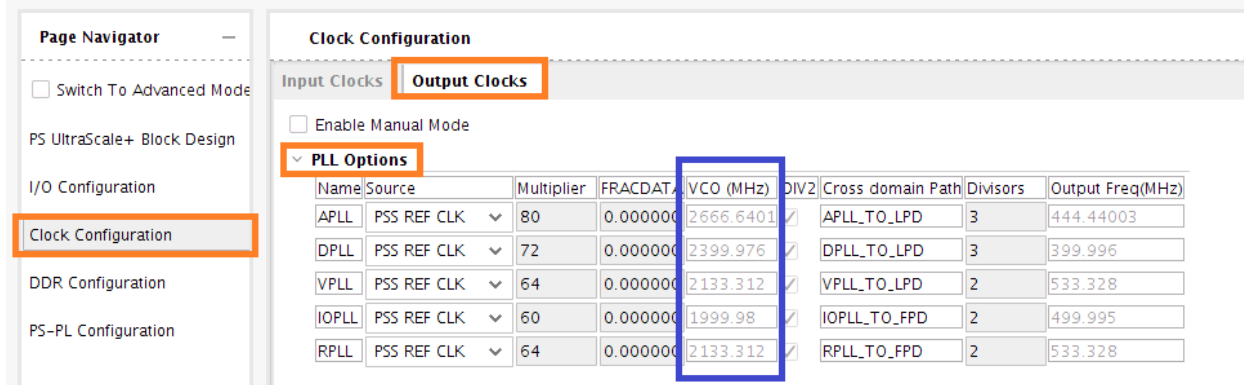

Figure 3-29: PLL Options in Clock Configuration
5. Customize the Zynq UltraScale+ IP and use the PLL Options section of Clock Configuration to generate the PLL section (marked as blue boxes in Figure 3-29).